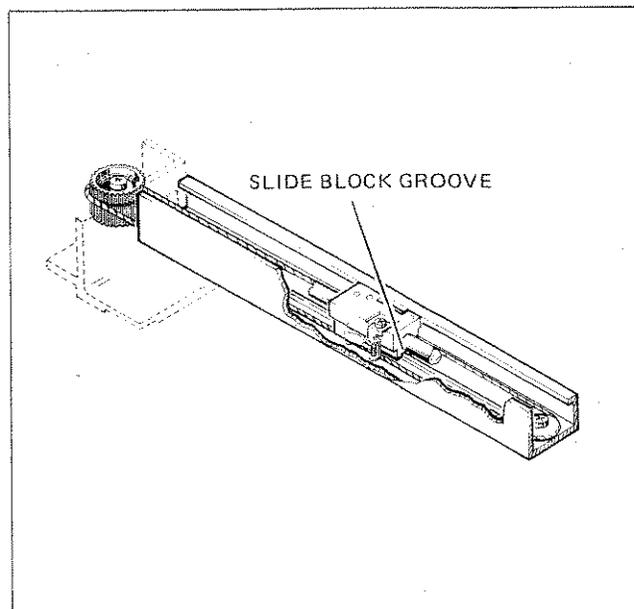

Figure 8-14. Cable Alignment Grooves
- l. Check wiper tracking. Minor adjustments can be made by twisting metal wiper base with force from small screwdriver. Make sure cable is in cable alignment grooves. See Figure 8-14.